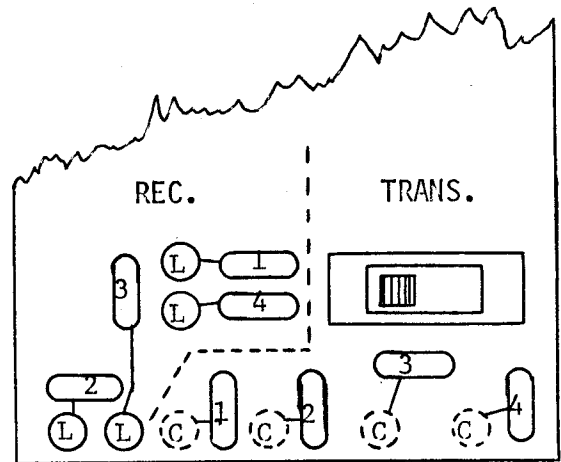

Fig. 4-5. Crystals & Inductors
ceive crystal to its proper frequency with the appropriate crystal netting inductor. See Figure 4-5.
1. Refer to Figure 4-5 for crystal and netting-capacitor locations (T).
2. Locate mounting position for the new crystal(s). Refer to Figure 4-5 for